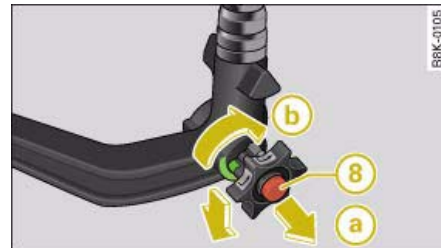

Fig. 203 Removable towing bracket: Removing the ball joint
- Take off the cover cap and insert the key (8) ⇒ fig. 203 in the lock on the knob.